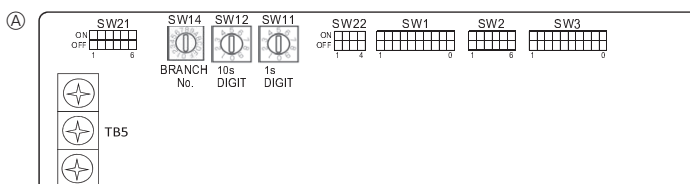

Fig. 4-6
4.5. Setting addresses (Fig. 4-6)
4.6. Switch setting for high ceiling or at the time of changing the number of air outlets (Fig. 4-6)
4.7. Sensing room temperature with the built-in sensor in a remote controller (Fig. 4-6)